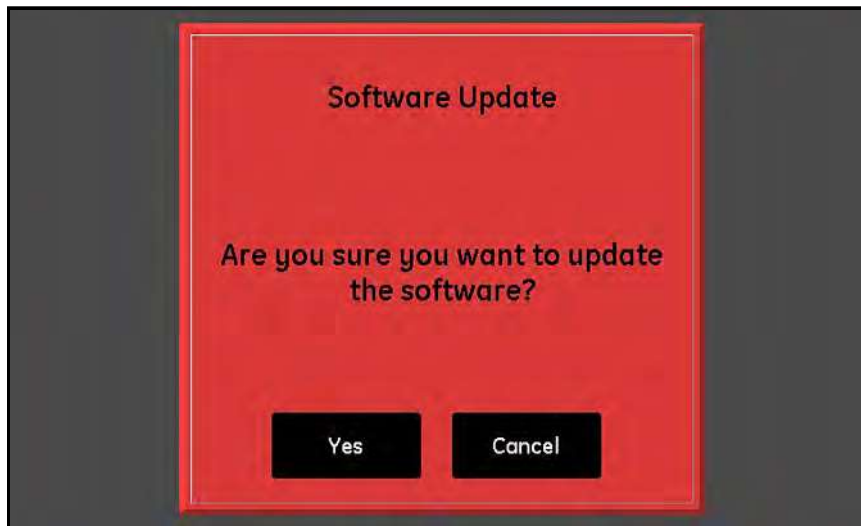

Figure 37: Software Update Confirmation Screen
2. Tap **Yes** at a screen similar to *Figure 37* below to confirm your choice, or tap **Cancel** to abort the update.